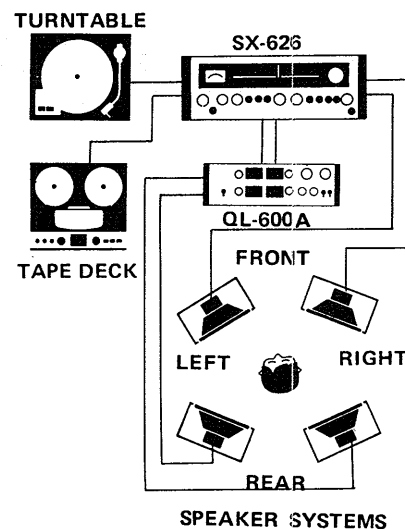

Fig. 4
- With the help of the Pioneer "4-channel decoder" amplifier, model QL-600A and an additional pair of speaker systems, the SX-626 can serve as the heart of an ultra-modern 4-channel stereo system. See Fig. 4.